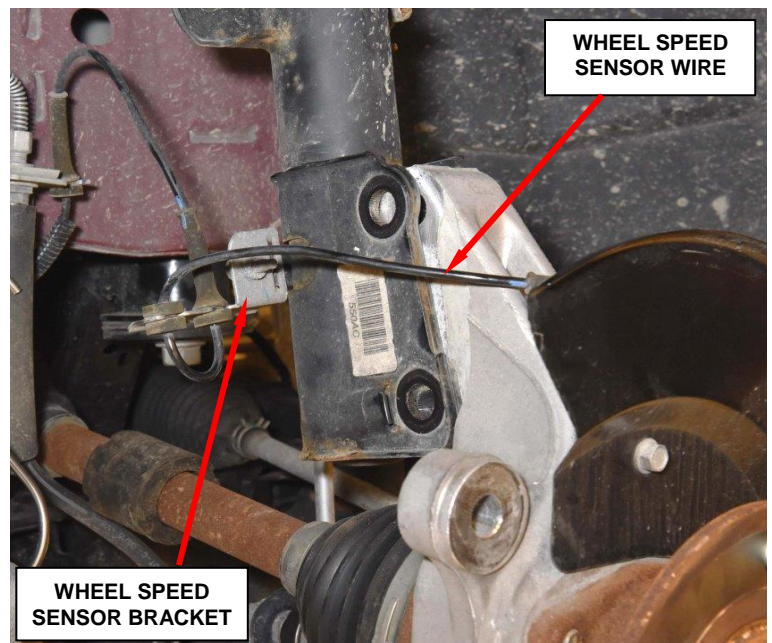

Figure 8 – Wheel Speed Sensor Wire
- f. Disconnect wheel speed sensor routing grommet brackets from the strut bracket (Figure 8).